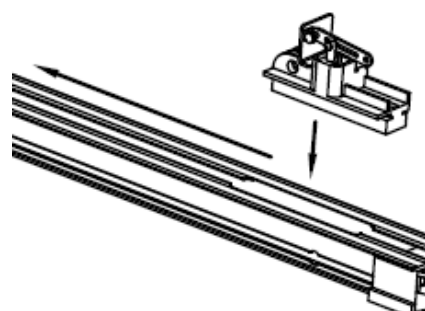

**Fig.6**
1. Fixing the wall bracket(A) to the wall 2cm-15cm over the shaft or intermediate bracket , and should be center horizontally. (depending on the actual installation space).
2. Fixing the steel track to the wall bracket using axis pin  $\Phi 8 \times 90$  (B) and cotter pin. (Fig. 6)
6. Fix the door bracket (E) to the top edge of the door (should be in the middle and under the wall bracket)
7. Connect the bent arm (G) to the door bracket using a  $\Phi 8 \times 25$  axle pin and cotter pin as shown in Fig. 6.
8. Install the shuttle(F) to the track(be sure it faces the right direction as shown in Fig.8), tie the clutch cord. Connect the straight arm ( H) to the clutch using a  $\Phi 8 \times 25$  axle pin as shown in Fig.6.